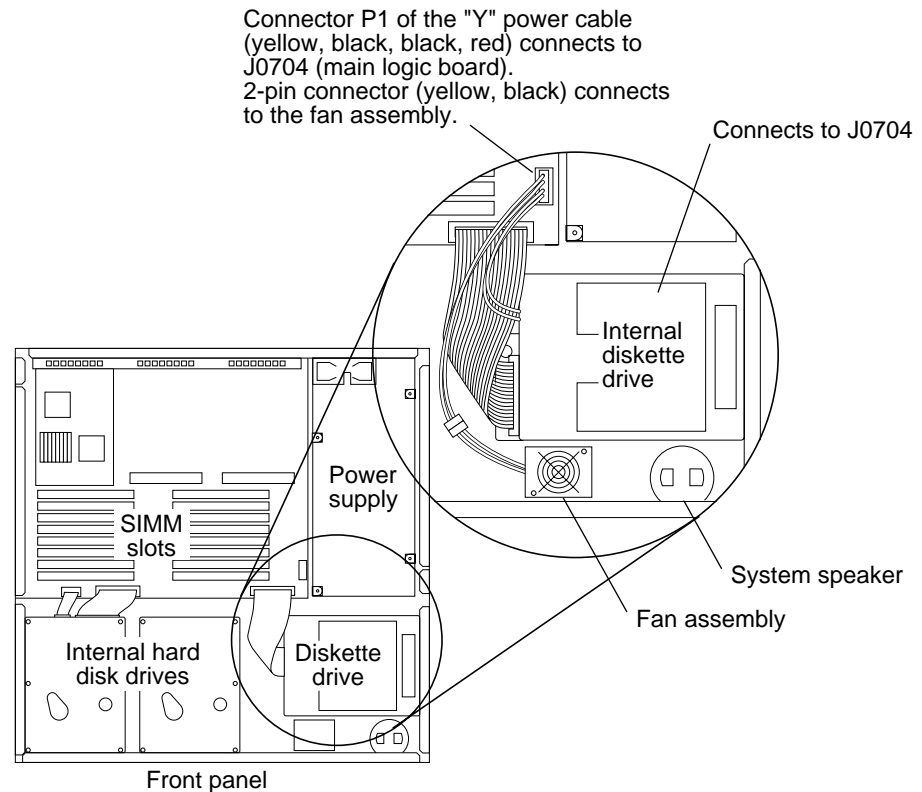

Figure 4-19 Connecting "Y" Power Cable to Fan Assembly.
- 5. Disconnect the fan cable from the 2-pin connector of "Y" power cable (Figure 4-19).**
- 2. Connect the fan cable to the 2-pin connector of "Y" power cable (Figure 4-19).**